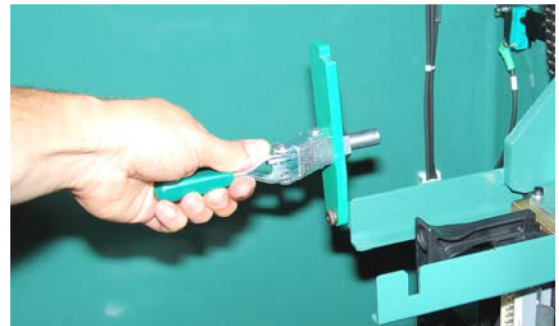

Figure 4-11: Latch Bar Assembly
2. Lower the clamp handle to release the module. Lift (pivot) the latch bar assembly up (**Figure 4-11**) and out of the way of the sealer module.